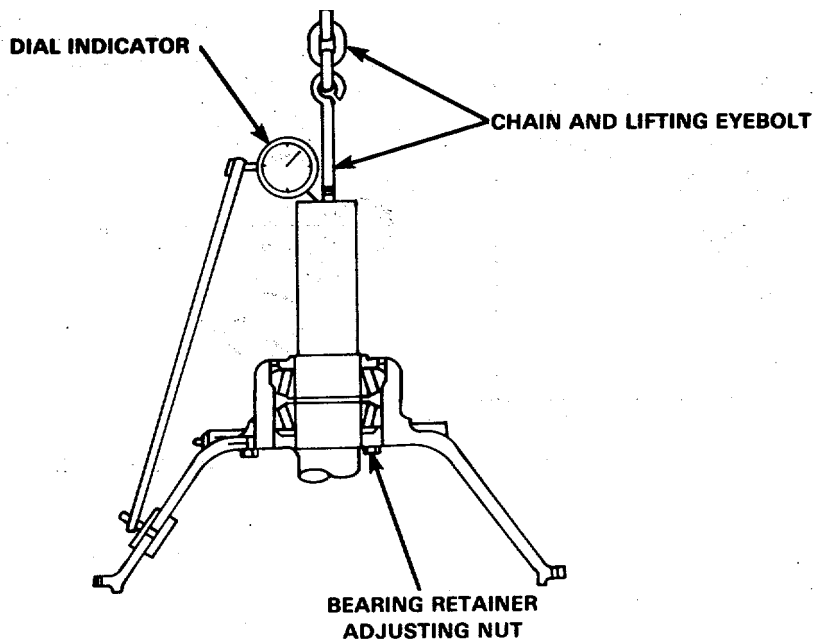

FIGURE 3-56. *Adjusting Roller Bearings..*
- d. Install the passage plug in the PTO housing (44) if removed during disassembly.
- e. With the PTO housing setting on the bench with the clutch end facing up, install the operating shaft (47) and throwout yoke (50). Push the operating shaft halfway into the PTO housing (44). Slip the throwout yoke (50) onto the operating shaft (47) and then push the shaft (47) the rest of the way through the PTO housing (44) to its normal position. Be sure the throwout yoke (50) is installed so the capscrews (49) enter from the clutch side toward the rear. Slide the yoke (50) to one side to expose Woodruff key slot in the shaft (34) and install the key (48). Slide the yoke (50) to the other side and install the remaining key (48). Center the yoke (50) over the keys (48) and secure the yoke (50) to the shaft (34) with the two hexhead capscrews (49). Tighten the capscrews (49) to 30-42 ft-lb torque.
- f. Using an arbor press and steel tubing, press the two bearings onto the clutch shaft (34), one from each end, with their back faces butting against the stop shoulder on the shaft (34).
- g. Install and secure the hand lever (42) to the operating shaft (47) with the hexhead capscrew (43). Tighten the capscrew to 86-95 ft-lb torque.
- h. Install the clutch shaft (34) bearings attached into the shaft bore and bearing cup (37) in the PTO housing (44); install the output end of the shaft (34) first. Slide the bearing cup (32) over the shaft and into its bore in the PTO housing. Squarely press the bearing cup (32) in place against the bearing. Install the bearing retainer (31) over the shaft (34).
- (1) Use the bearing retainer nut for adjusting the tapered roller bearings. Refer to FIGURE 3-56.